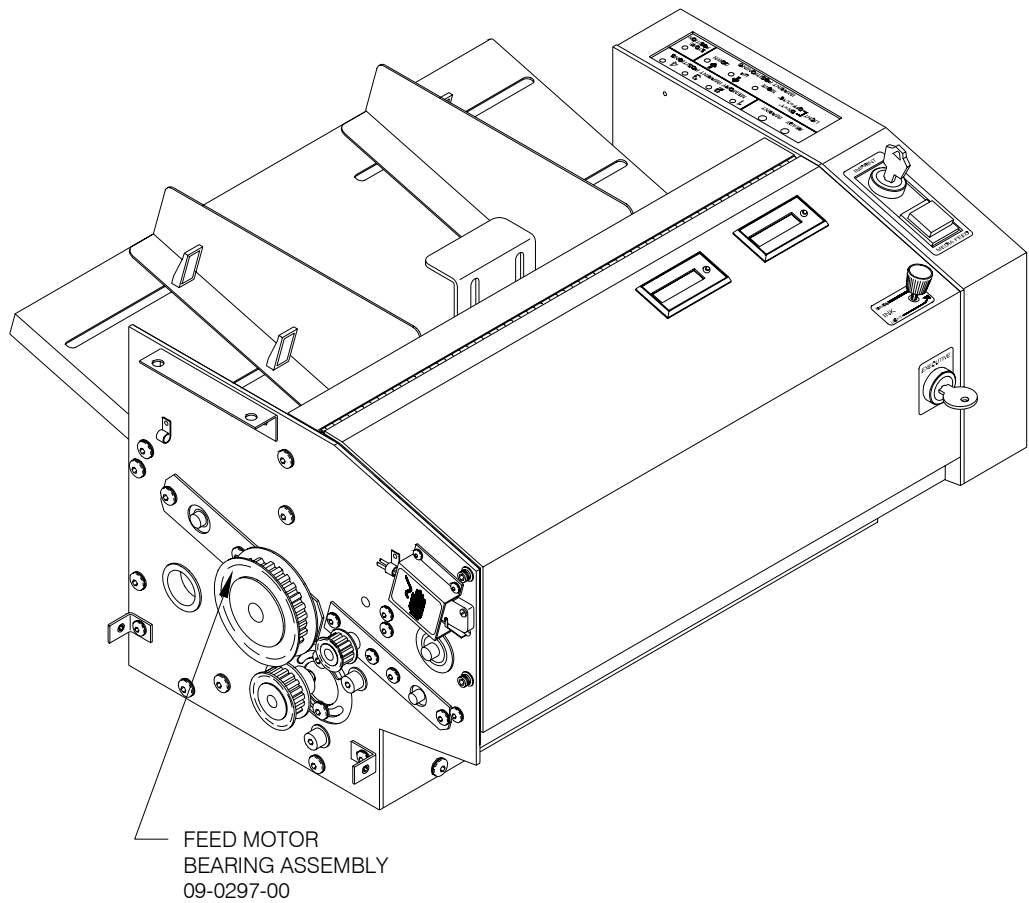

Figure 7.24 -- Feed Motor Bearing Assembly
12. Install the FEED MOTOR BEARING ASSEMBLY. (Refer to **Figure 7.24.**)